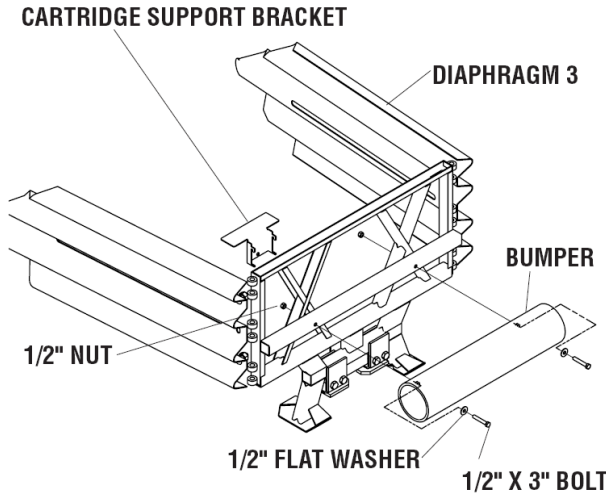

Figure 63
- A. Use 1/2" x 3" bolts, 1/2" flat washers and 1/2" nuts to attach Bumper to front of Diaphragm 3. Hang Cartridge Support Bracket onto the lower rear of Diaphragm 3 as shown in Figure 63.